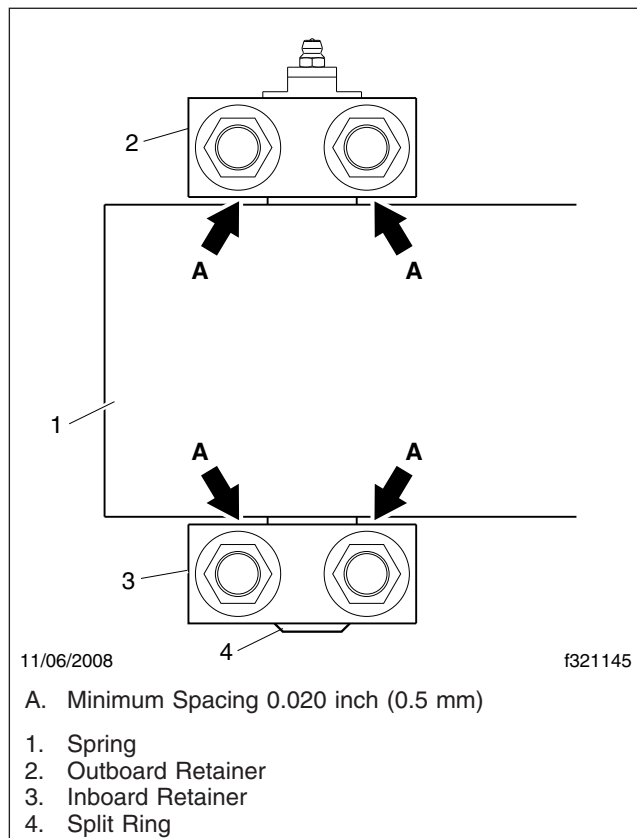

Fig. 4, View From Underneath the Forward Spring Eye
- 18.1 Using the threaded spring pin to adjust the position, center the front spring pin in the drive bracket. The nominal gap on each side is 0.063 inch (1.60 mm). Maintain a minimum gap of 0.020 inch (0.5 mm) on each side. See Fig. 4.